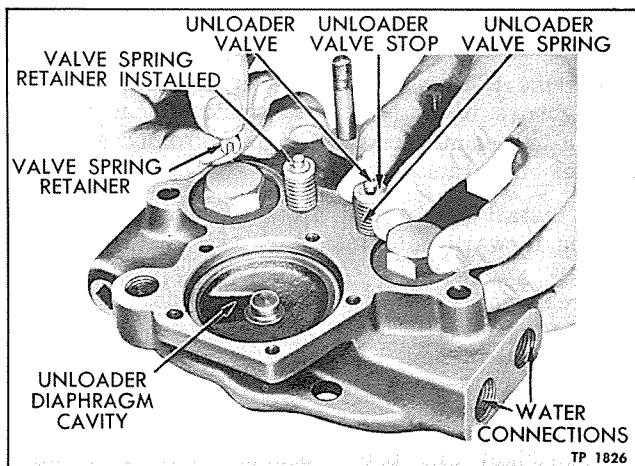

Figure 7—Installing Unloading Valves
1. Insert each unloading valve into cylinder head body from bottom side. Place a small wooden block or a nut under each valve to hold it up against seat as head is set on bench. Install unloading valve spring over each valve, then place stop on top of each spring. Compress each unloading valve spring by hand and install spring retainer on valve stem above stop (fig. 7).